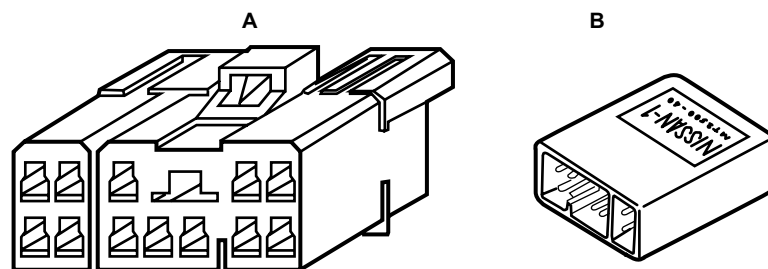
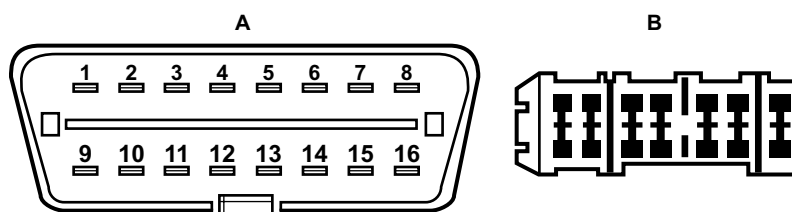

Figure 14-1 Vehicle diagnostic connector
Figure 14-2 Nissan diagnostic connectors
Figure 14-1 and Figure 14-2 on page 152 show Nissan and Infiniti diagnostic connector locations and adapter information for reading engine codes.
1. Connect the molded adapter to the connector shown in Figure 14-1 and Figure 14-2 on page 152, which may be in the following locations: